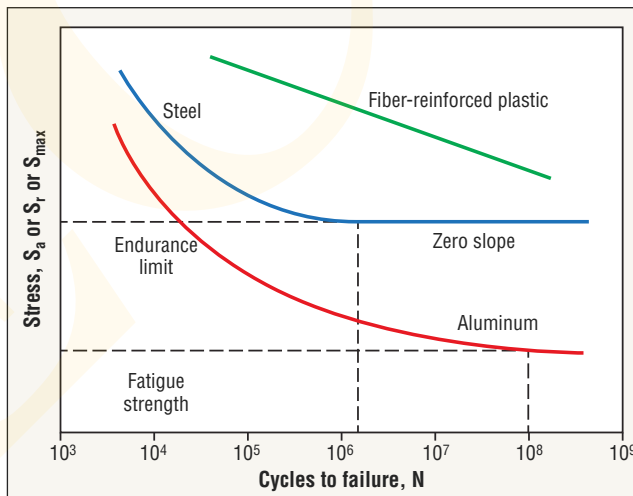

Fig. 6. S-N diagrams for steel, aluminum and fiber-reinforced plastic.
In stress-based fatigue tests, multiple samples of identical size, shape and composition are subjected to different levels of stress amplitude (S_a) or stress range (S_r), and the number of cycles to failure (N) is measured for each. Various types of instruments and machines are used to apply cyclic loading and include rotating-bend and cantilever-bend machines (Fig. 7), servo-hydraulic or servo-electric axial push-pull testing systems (Fig. 8) and electric-motor-driven torsion fatigue testers (Fig. 9). The resulting S-N data for each identical specimen is plotted on either a log-log or semi-log graph. Regression is used to fit a curve through the points, resulting in an S-N diagram as shown in Figure 6. Depending on the type of cyclic loading, the ordinate (y-axis) will represent stress amplitude (S_a), stress range (S_r) or maximum stress (S_{max}).